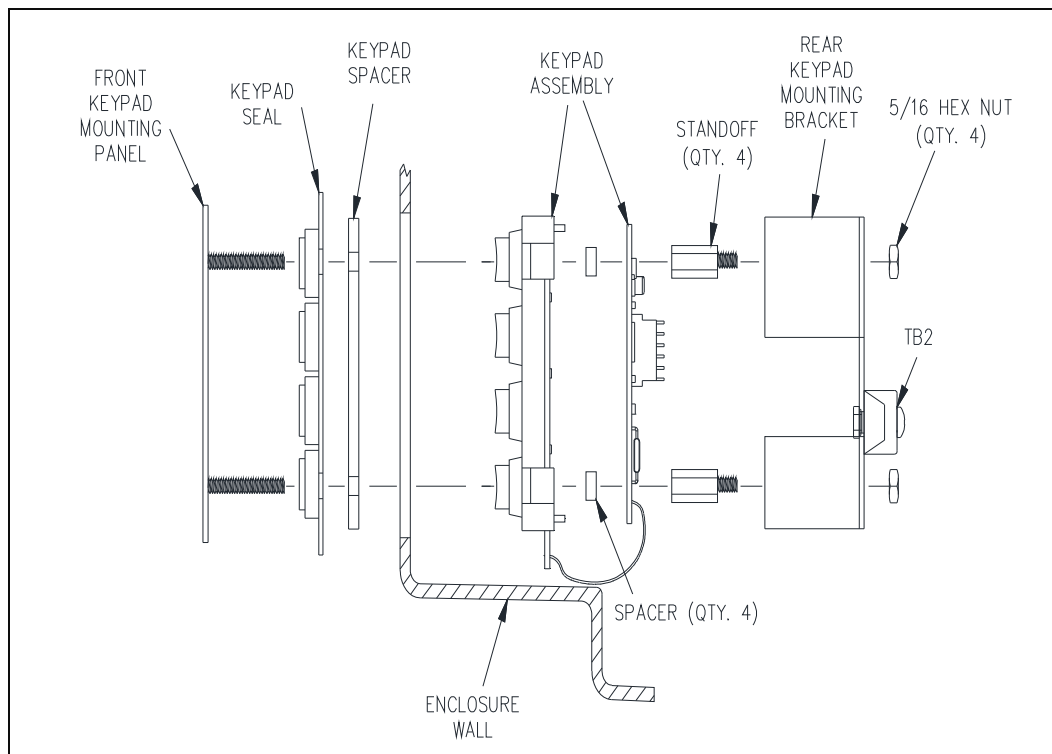

Figure 6. Keypad Assembly
14. Lift the aluminum keypad spacer off of the front keypad mounting panel to expose the keypad seal. See Figure 6. Save the keypad spacer for re-assembly.
16. Press the new keypad seal into the front keypad mounting panel as shown in Figure 6. Make sure that each key extrusion of the seal is seated fully into the front keypad mounting panel.